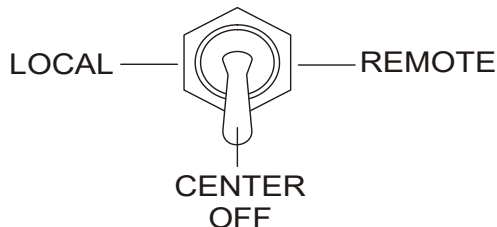

Figure 21. Pumping Control Switch (OFF)
3. Place the **Pumping Control Switch** to the **CENTER OFF** position (Figure 21) for normal pumping operation.